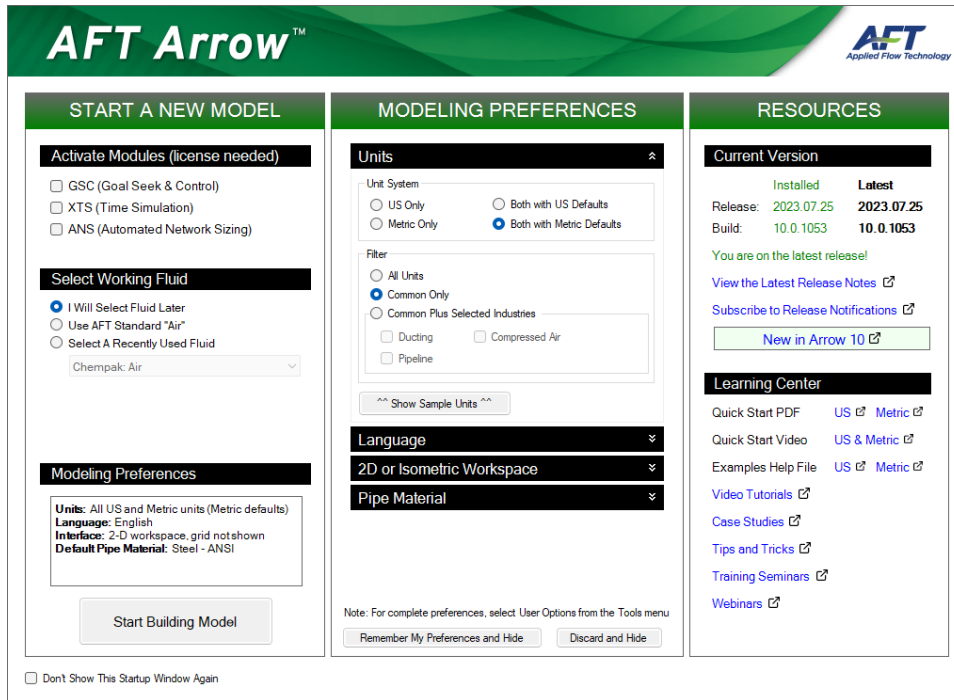

Figure 2: Startup Window showing Modeling Preferences
- **Modeling Preferences** - Displays various settings for the application, such as specifying the units to use or which grid to use. These options can be modified later. Click the **Modify** button to reveal the following settings, as shown in Figure 2. Click the **Remember My**